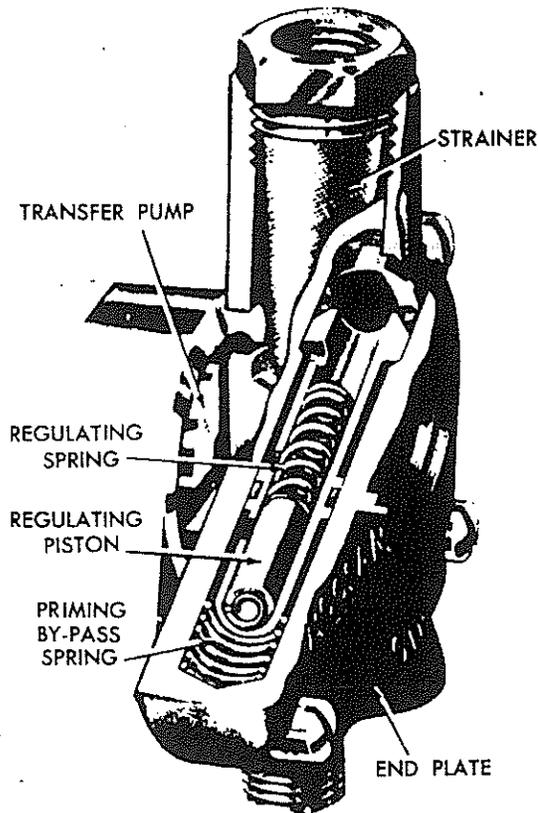
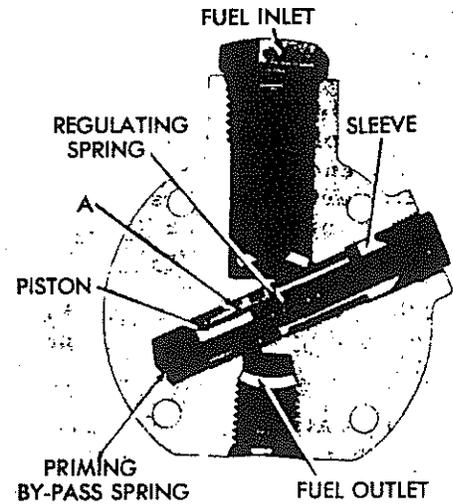

FIG. 7
FIG. 8 (At Rest)
The end plate, pressure regulating valve, priming by-pass spring and strainer are shown in Fig. 7. Figs. 8, 9 and 10 show the regulating piston in three positions - at rest, during hand priming, and in operation.
Fig. 8 shows the piston covering the hand priming port (A) and resting against the priming by-pass spring.